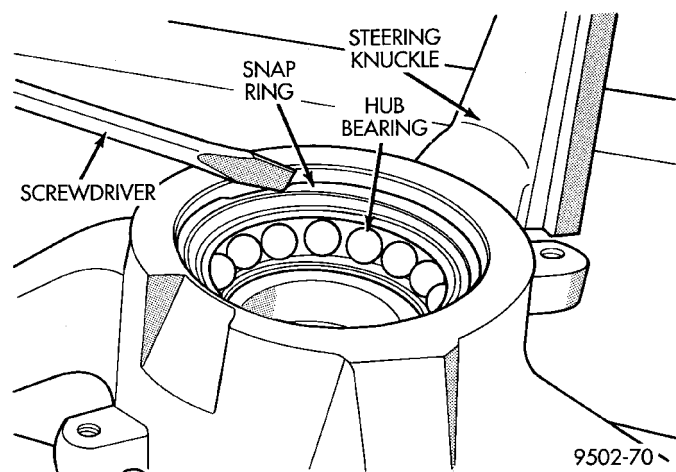

Fig. 46 Hub Bearing Retaining Snap Ring Removal
CAUTION: Safety goggles and or face protection should always be worn when removing the snap ring (Fig. 46) retaining the hub/bearing in the steering knuckle. When the snap ring is removed from the steering knuckle it could fly out of the steering knuckle with great force possibly causing personal injury.
(6) Using a screw driver, (Fig. 46) remove the snap ring retaining the hub bearing in the steering knuckle.